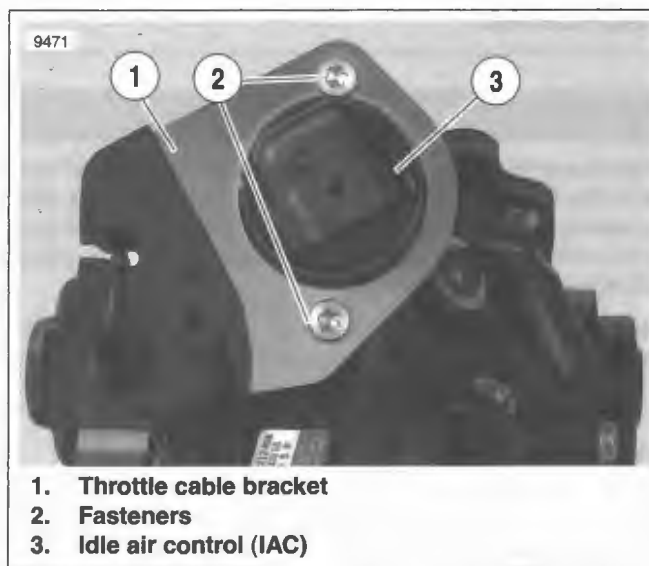

Figure 4-24. Idle Air Control Location
2. See Figure 4-24. Remove two fasteners (2) to release throttle cable bracket (1) from induction module. Discard fasteners.
5. See Figure 4-24. Install **new** throttle cable bracket fasteners (2). Tighten to 20-35 **in-lbs** (2.3-4.0 Nm).